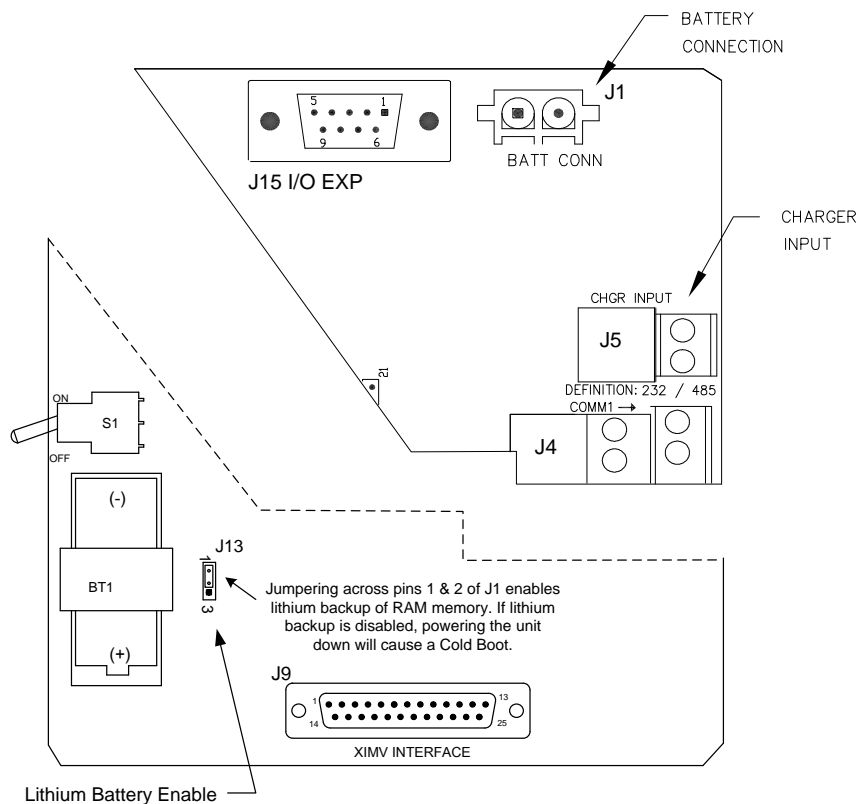

Figure 86: XFCG4 Electronic Board Maintenance Connections
5. Ensure the J13 memory backup jumper covers the top two pins (Figure 86). This enables the memory backup.
15. Reconnect the battery pack cable to the flow computer panel connector J1 (Figure 86, *XFCG4 Electronic Board Maintenance Connections*, page 114).
16. Reconnect the battery charger to the flow computer panel terminals EXT CHGR +/- terminals J5 (Figure 86, *XFCG4 Electronic Board Maintenance Connections*, page 114).
5. Ensure the J13 (Figure 86) memory backup jumper covers the top two pins.
8. Disconnect the battery charger from the panel terminals EXT CHGR +/- J5 (Figure 86, *XFCG4 Electronic Board Maintenance Connections*, page 114).
9. Disconnect the Battery Cable from the panel connector J1 (Figure 86).